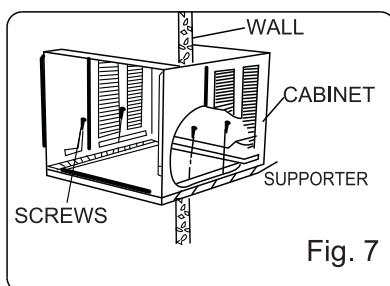

Fig. 7
3. Make sure the discharge points to the drain pan are aligned before the chassis is pushed into the cabinet (See Fig.7).